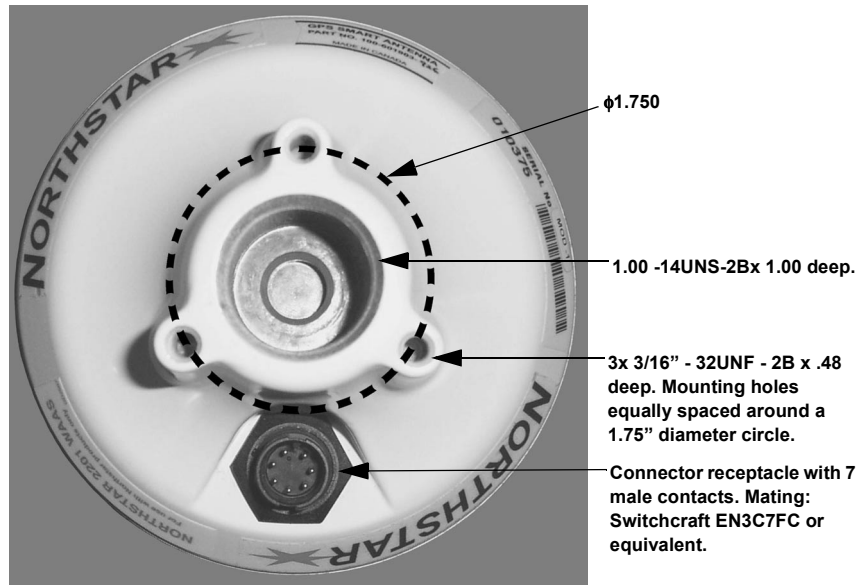

Figure 10: Mounting on a flat surface (viewed from below)
- 1 Using the three screws and washers provided, mount the 2201 onto the flat surface using three holes on a 1.75-inch diameter circle (see Figure 10 below).